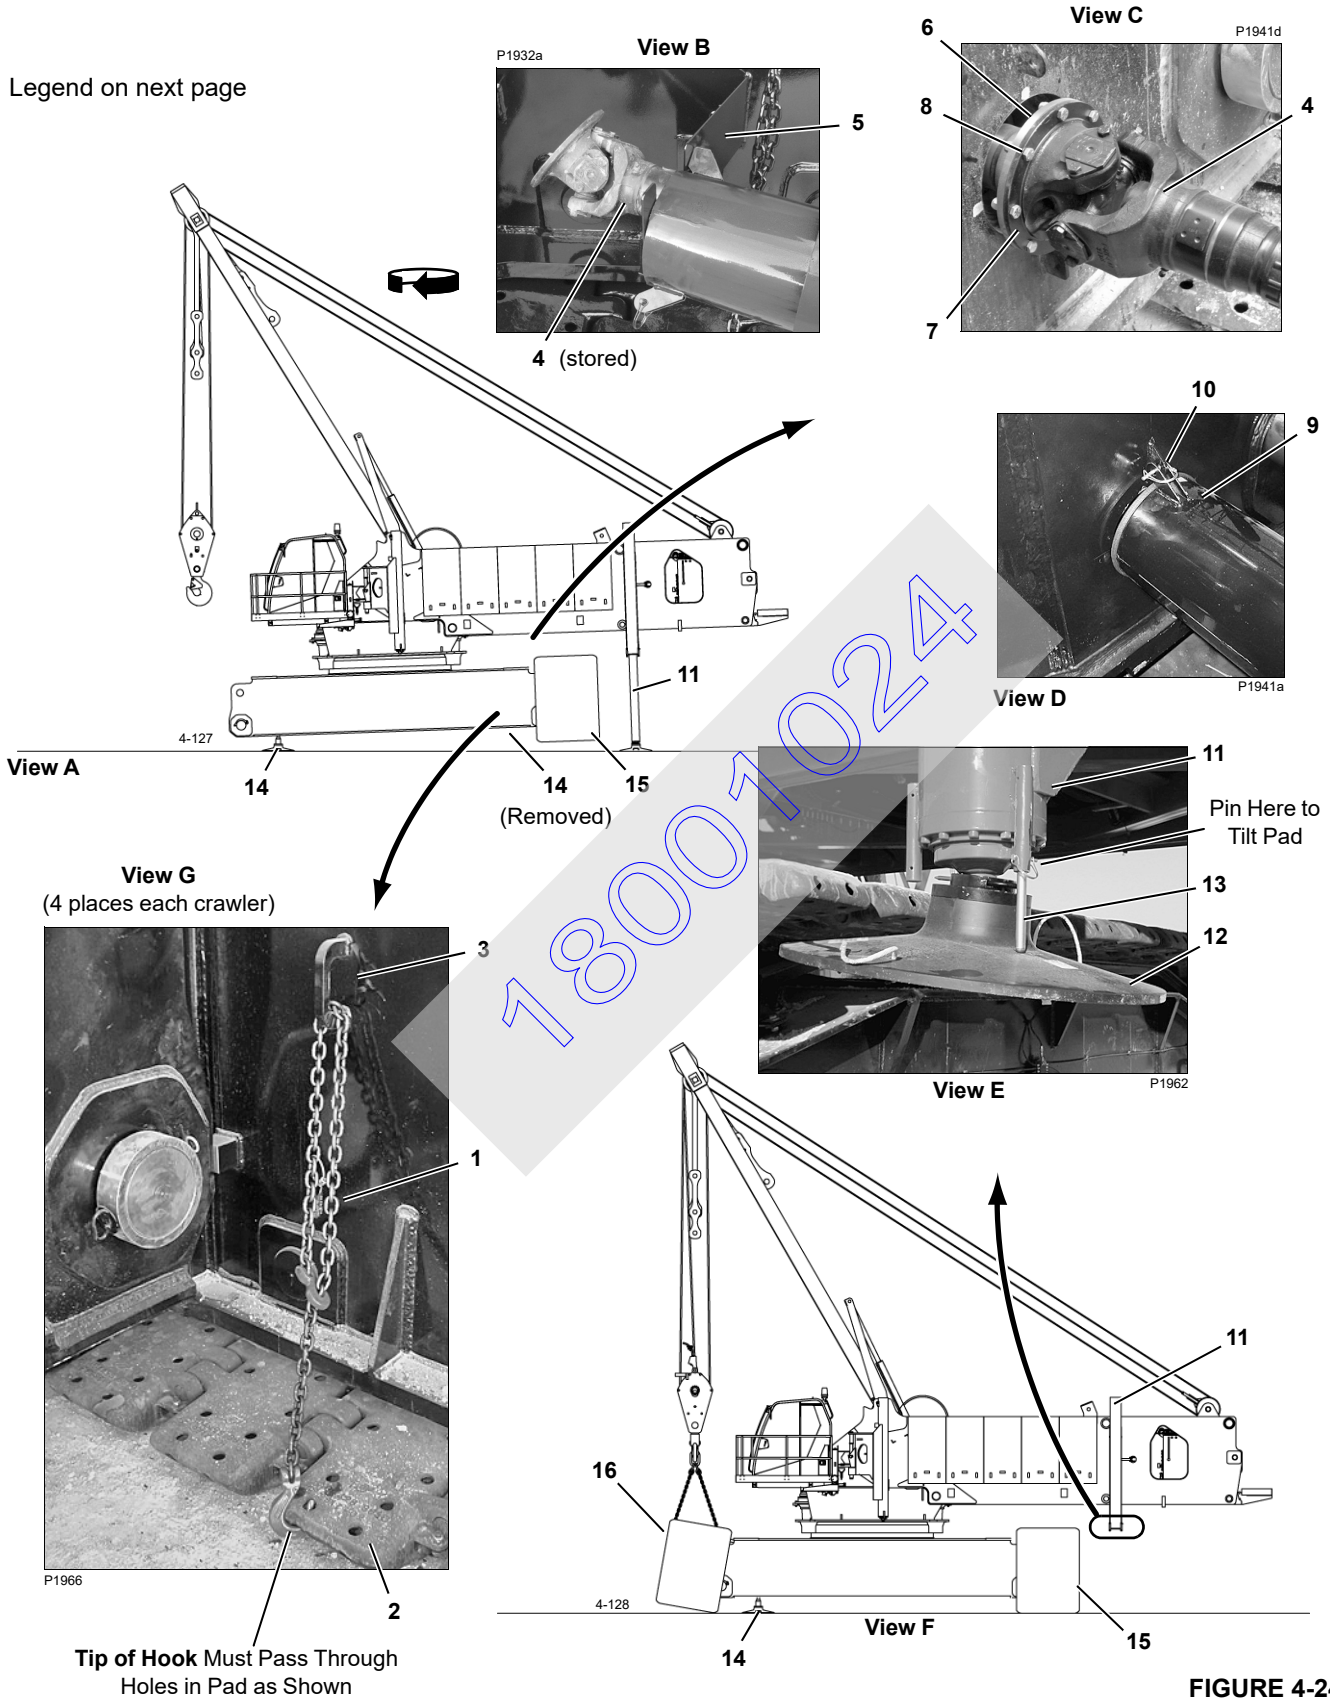

FIGURE 4-24
**NOTE** To prevent crawler pads from sagging too much when crawler is lifted, chains are installed between the crawler frames and pads (see Figure 4-24, View F). Some sag must be allowed to prevent interference between carbody and crawler pads.
See Figure 4-24 for the remaining steps.
See Figure 4-24 unless otherwise noted.
**Legend for Figure 4-24**